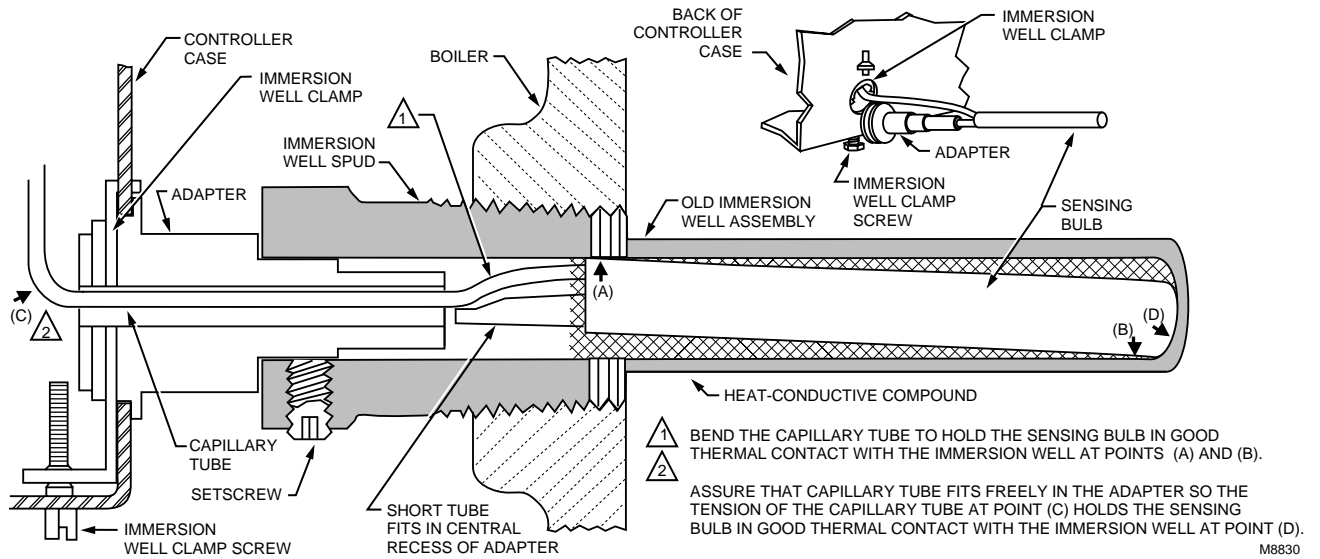

Fig. 9. Positioning the sensing bulb in the immersion well.
*Be sure that the sensing bulb fits snugly inside the immersion well and that the sensing bulb rests against the bottom of the immersion well. Refer to Fig. 9.*
3. Fasten the R8182D immersion well clamp to the flange on the immersion well adapter. Refer to Fig. 9.
4. Loosen the immersion well clamp screw. See Fig. 9.